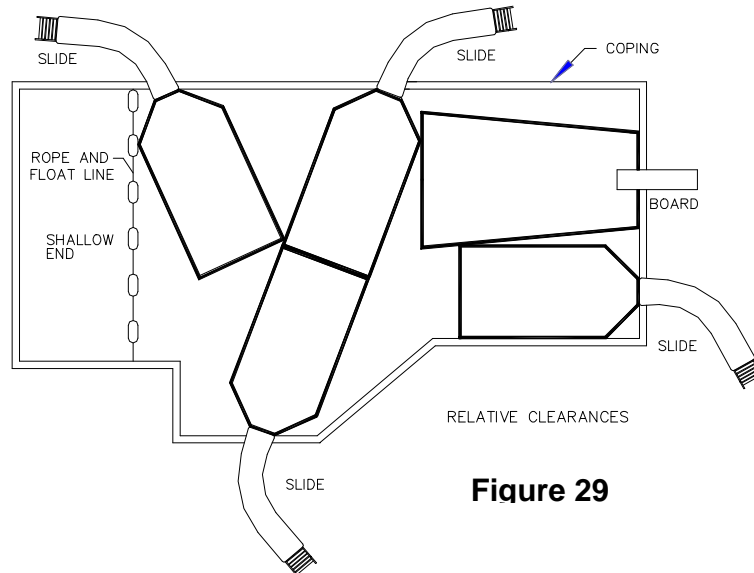

Figure 29
2) A minimum clearance area in front of the slide shall be maintained away from the coping, another slide, a diving board or a rope and float line. (See Figure 29)
C. The minimum clearance area of a slide or diving board shall not intersect any coping or rope and float line. (See Figure29) The minimum clearance area of a slide or diving board may intersect each other provided that they are not used simultaneously.